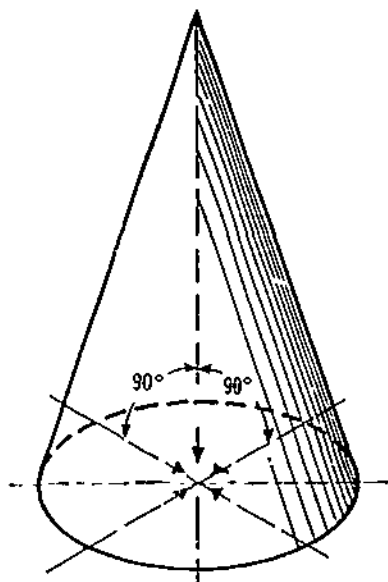

Figure 5-10. Cone
**Cone** — a cone is a right cone if the base is perpendicular to the axis, and oblique if the base is not perpendicular to the axis. Cone bases are usually circular or elliptical (Figure 5-10).